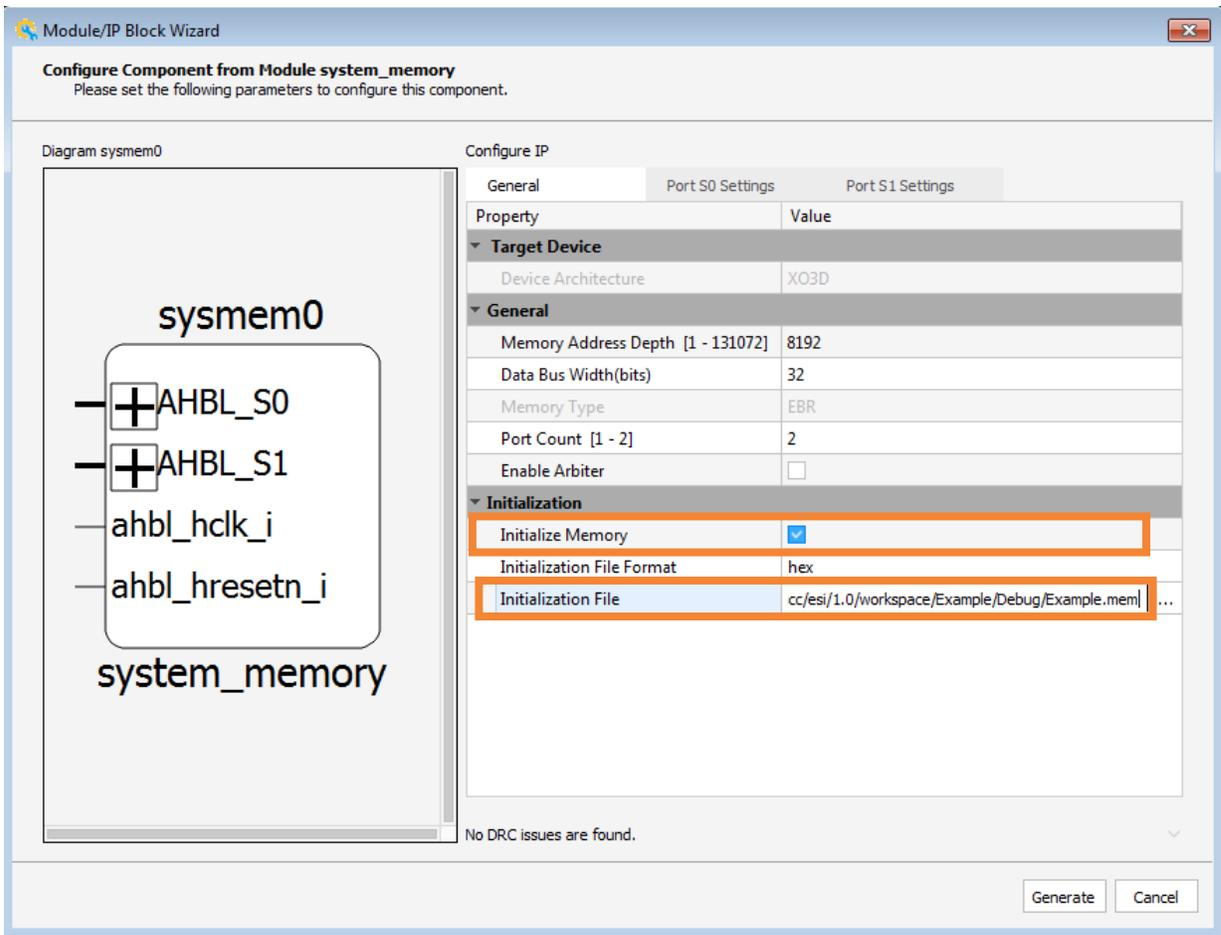

Figure 3.21. Configure Module System Memory
- Enable checkbox **Initialize Memory** for *system_memory* IP module from the **Initialization** area of the **General** tab, and set **Initialization File** generated from corresponding C project (Figure 3.21).